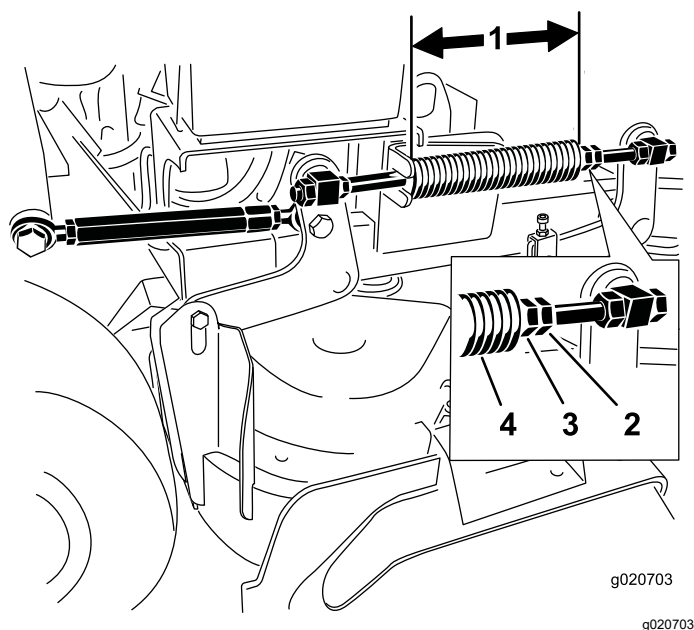

Figure 84
- Note:** Nominal length is 28.2 cm (11-1/8 inches) for 91 cm (36 inch) mower decks (Figure 84).
3. Adjust this distance by loosening the spring-jam nut and turning the nut in front of each spring (Figure 84).
4. Lock the nut into position by tightening the spring-jam nut (Figure 84).